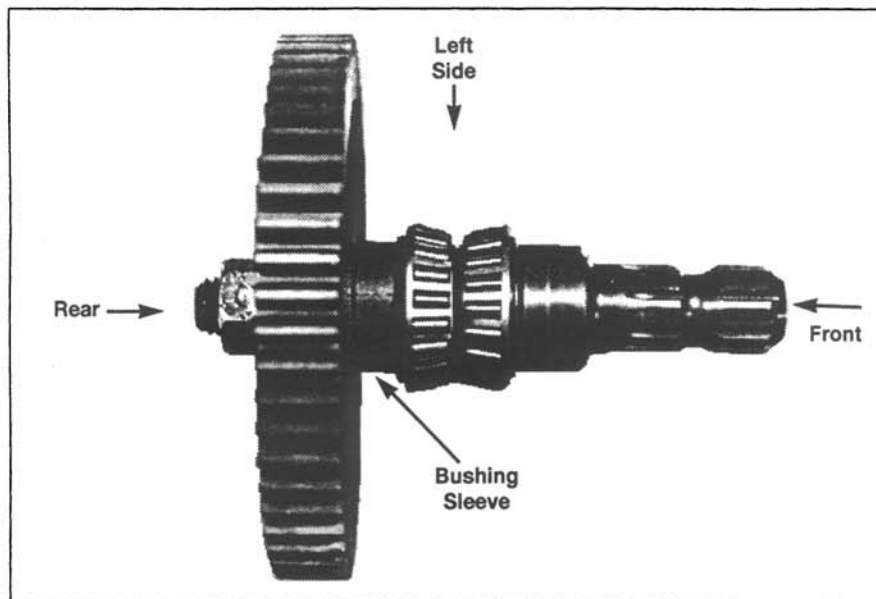

FIGURE 17 - #10 Shaft (PTO Output)
3.4 Inspection and Repair of #10 Shaft (PTO Shaft). See Figure 17